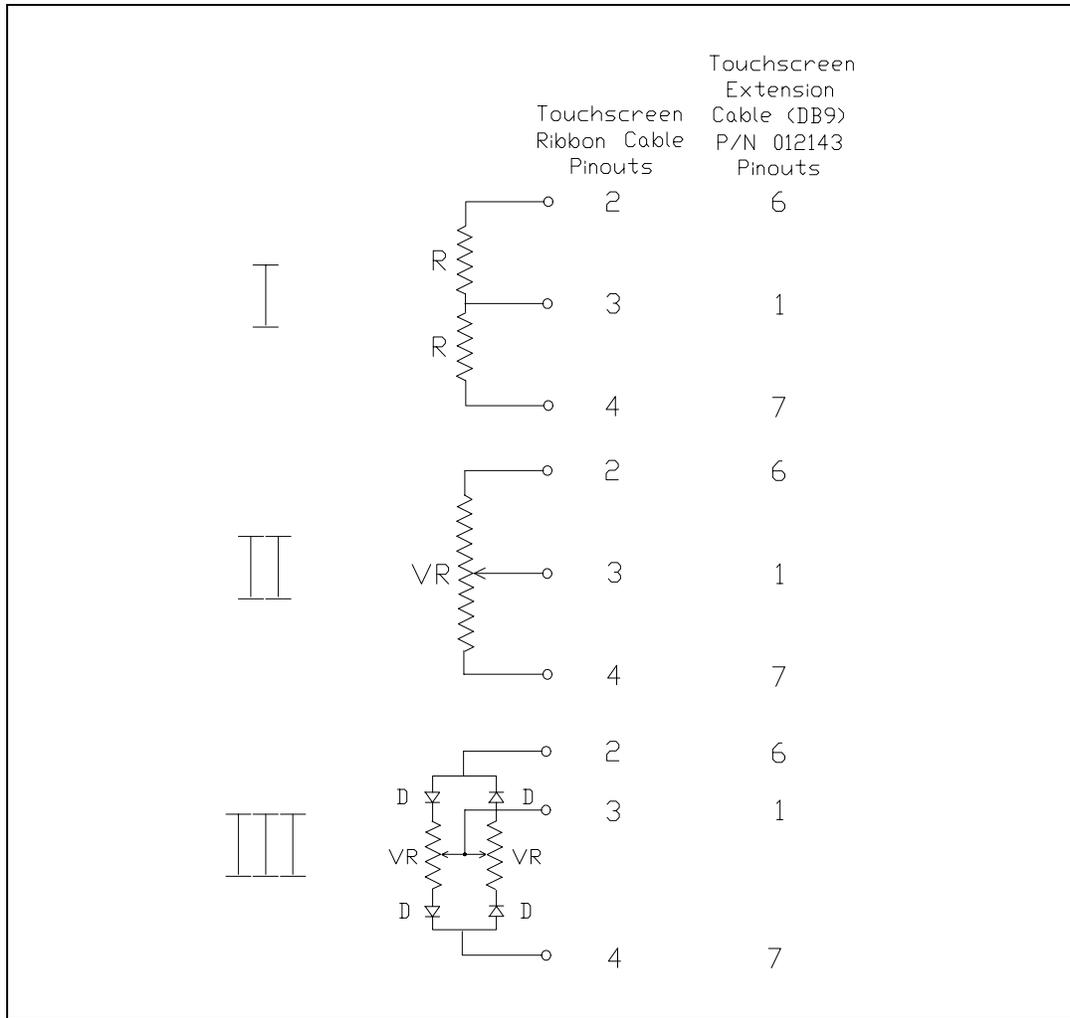

Figure A-1. AccuTouch Touchscreen Simulation Circuits
The simplest dummy touchscreen is the “paper clip test” described on page 48. Another simple dummy touchscreen is shown in Part I of Figure A-1, page 52. This circuit will produce the action of a constant touch in the middle of a real touchscreen. The coordinates that the controller outputs will be about 2000,2000 when using ELODEV uncalibrated and the TOUCHES diagnostic utility. This circuit can also be modified by adding a switch between the junction of the resistors and the input to pin 3, and can then emulate a touch by closing the switch. Acceptable resistor values (R) are from 100-500 ohms, 1/4 watt or greater.
If a potentiometer is substituted for the two resistors in Part I of Figure A-1, the dummy touchscreen in Part II results. It simulates a touchscreen with touches moving from the upper left to the lower right as the pot is turned. Typical values would be 0-20, 4092-4095 at one extreme and 4092-4095, 0-20 at the other extreme. Potentiometer values (VR) from 100-1000 ohms are acceptable.